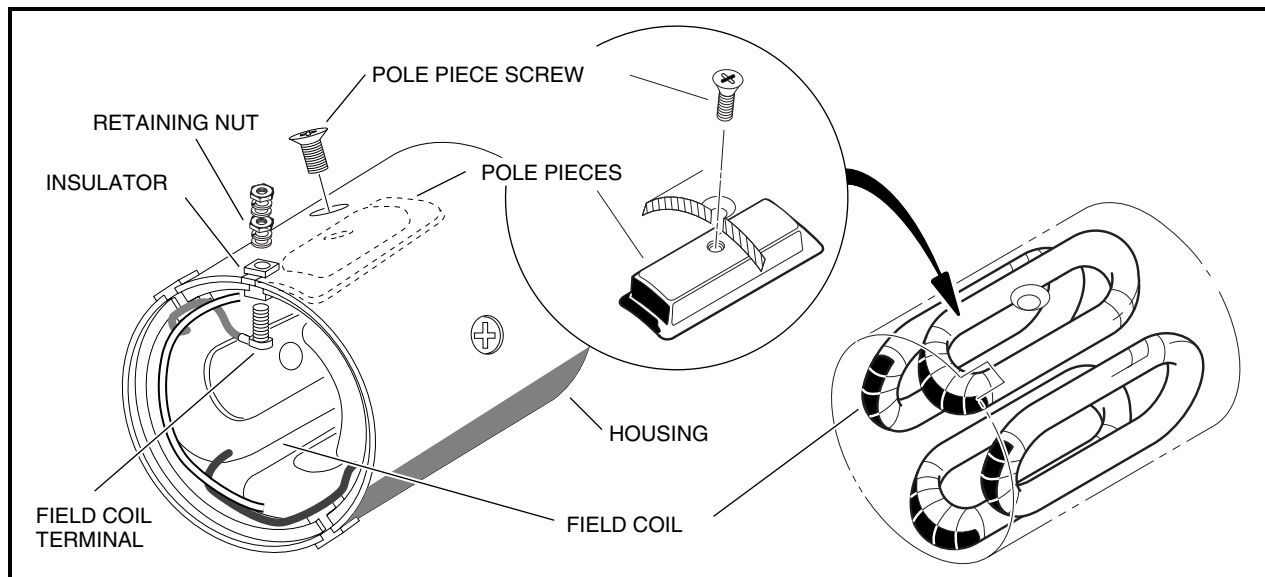

Figure 12-11 Field Coil Assembly
1. Remove the retaining nut from each field coil terminal and slide the insulator out of the slots in the housing. Remove the four pole piece screws from the housing. Remove the four pole pieces from inside the housing. Remove the field coils from the inside of the housing (Figure 12-11, Page 12-6). See following
**NOTE:** Do not remove the insulators or the field coils unless an electrical test indicates that it is necessary (Figure 12-11, Page 12-6). See Test Procedure 8, Section 11, Page 11-28.
2. After the insulators are seated in the slots, install the threaded terminals through the wire connectors and then through the insulators. Install a flat washer, lock washer and nut onto each threaded terminal on the outside of the housing. Tighten nuts to 47.5 in-lb (5.4 N·m) (**Figure 12-11, Page 12-6**). See following **CAUTION**.
3. Install the four pole pieces into the housing. Use the four screws to secure pole pieces to the inside of the housing to retain the field wires. Tighten screws to 9 ft-lb (12.2 N·m) (**Figure 12-11, Page 12-6**).